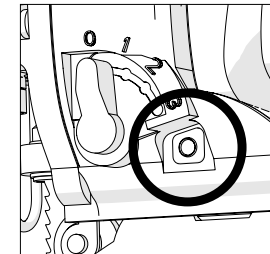

Fig 12
- Push the 'Air Blower' control slide fully to the right (as seen from the operators viewpoint) (**Fig 12**)